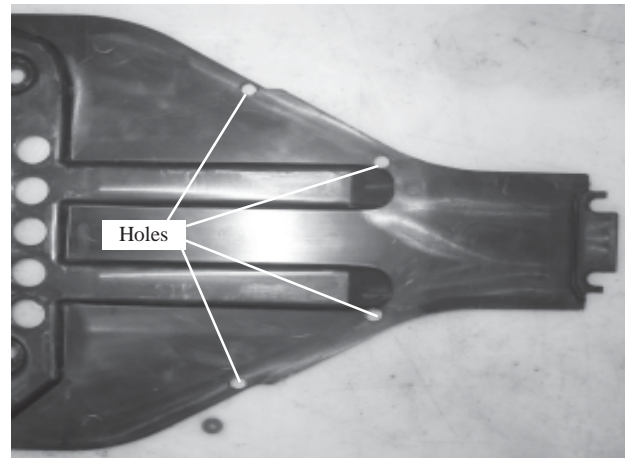

Figure 4
4. Use the 3/8" drill to make the four holes in the skid plate, Figure 4.